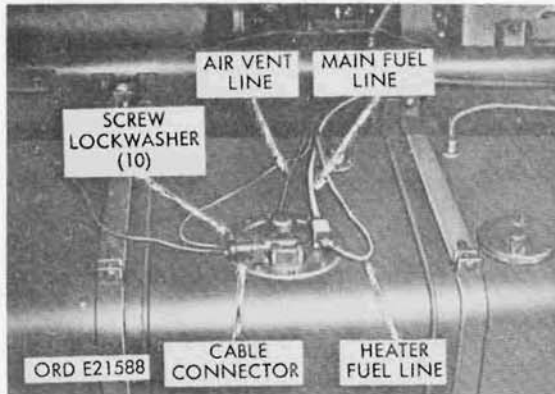

Figure 126. Fuel tank fuel pump installed.
- (1) Drain fuel tank in accordance with TM 9-2320-209-10.
- (2) Disconnect all fuel lines and electrical cable connectors from fuel tank and pump (fig. 126).
76. Fuel Tank Fuel Pump Assembly Replacement (Fig. 126).